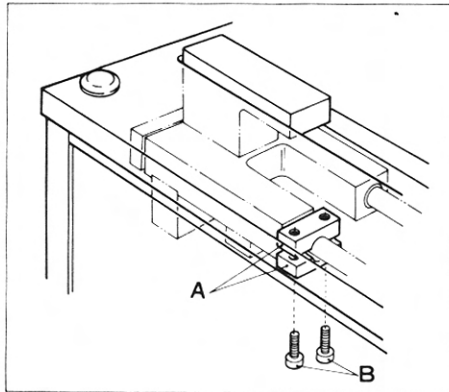

Figure 1
2. Carriage Shipping Lock (Figures 1 and 2)